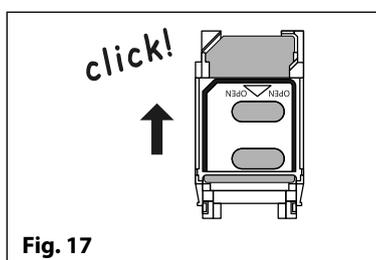

Fig. 17
4. Slide the SIM holder back up until it 'clicks', see **Fig.17**